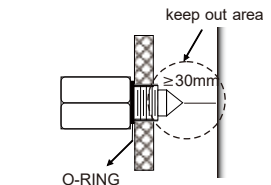

Fig.5
- In installation (Fig.5), use o-ring in the bottom of the thread and tape seal around the thread then screw to the tank wall.
- Tip of the optical sensor must be free at least 30mm from any reflective surfaces or other interferences. Like the tank wall (Fig.5.)